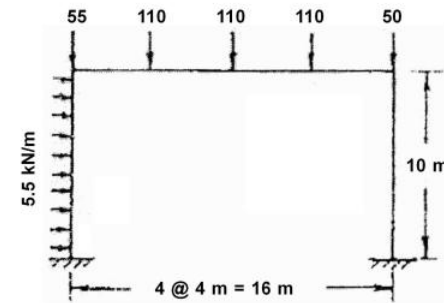

Fig. 2
2. A building consists of **uniform** portal frames with fixed bases having 16 m span and 10 m height. The frames are spaced 5m apart. The roof consists of beams and concrete slab such that the load on the frame is shown in Fig. 2. The wind load on the side may be taken as 5.5 kN/m. Design a portal frame